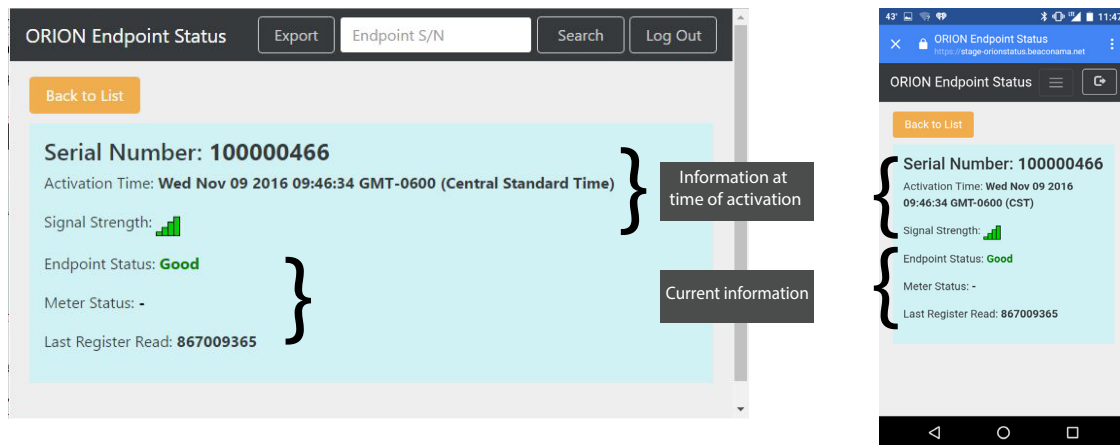

Figure 26: Status detail screen - computer and mobile
5. Select an endpoint in the list to see the endpoint raw read. A window opens, like the examples shown in Figure 26.